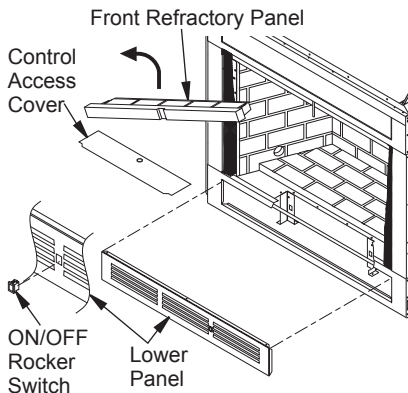

Figure 13 - Accessing Blower Compartment (Controls Not Shown for Clarity)
Decide which way you intend to gain access into the bottom rear of the firebox to install the blower accessory. The lower front panel can be removed easily by snapping out the front with a flat blade screwdriver. Use caution not to scratch any surfaces. Models with louvered front panels can also be removed by inserting fingertips between slots and gently pulling out. **DO NOT FORCE.** The panels are actually held in place by means of a retention dimple embossed on the edge of removable panels. Accessibility to the bottom on 36" and 42" models only, can also be gained through the access panel underneath the bottom front refractory brick liner. Lift the bottom front refractory brick liner up and out of the firebox floor, exposing the rectangular shaped access panel (see Figure 13). The sides and back refractory brick liner pieces do not have to be removed. Lift access panel out by using finger holes. Blower accessory BK or BK3 can now be installed.
6. **For (V)FBL models only:** Remove ON/OFF switch from louver panel by pressing top and bottom retaining clips (see Figure 13, page 15).